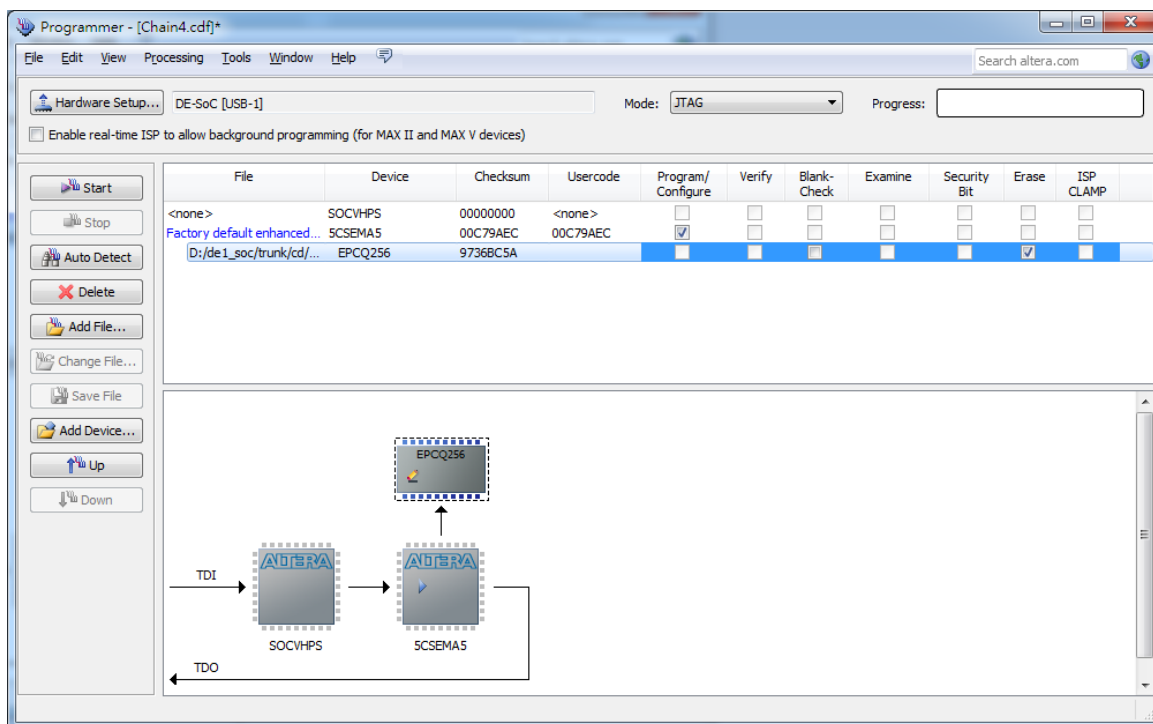

Figure 8-8 Erase the EPCQ device in Quartus II Programmer
5. Erase the EPCQ device by clicking the corresponding **Erase** box. A factory default SFL image will be loaded, as shown in **Figure 8-8**.